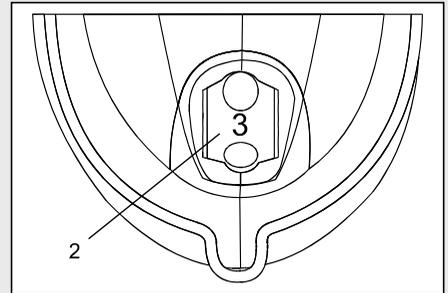

Fig. 6
The spin saw is equipped with a variable speed control located below the ON/OFF switch. To run the tool at its slowest speed, rotate the speed control wheel (2) to number "1" (Fig. 6). To increase the tool speed, rotate the speed control wheel in the opposite direction. Maximum speed will be achieved at "6".